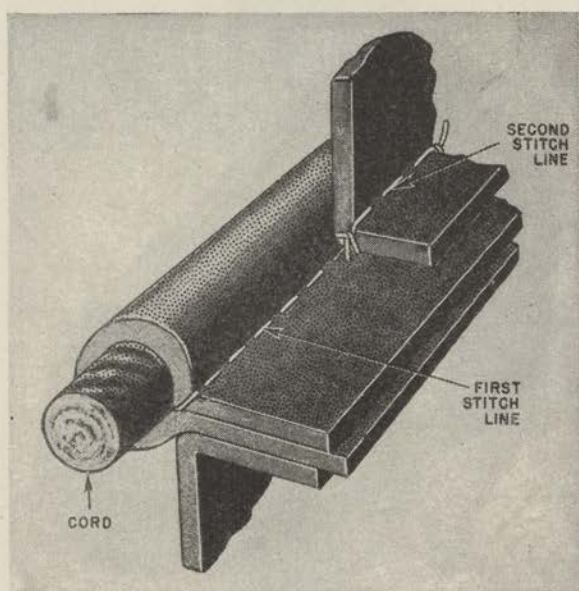

FIGURE 104.—Cord welt seam.
(3) The cord welt seam (fig. 104) used particularly in leather seat covers, is made by doubling a piece of material around a cord and